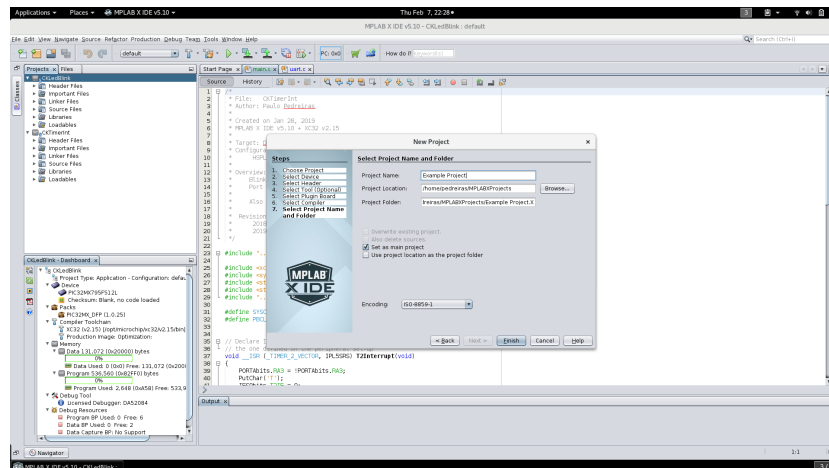

Figure 5: Type project name
7. Name the project (box “Project name”) and select a suitable folder for storing it (Figure 5)